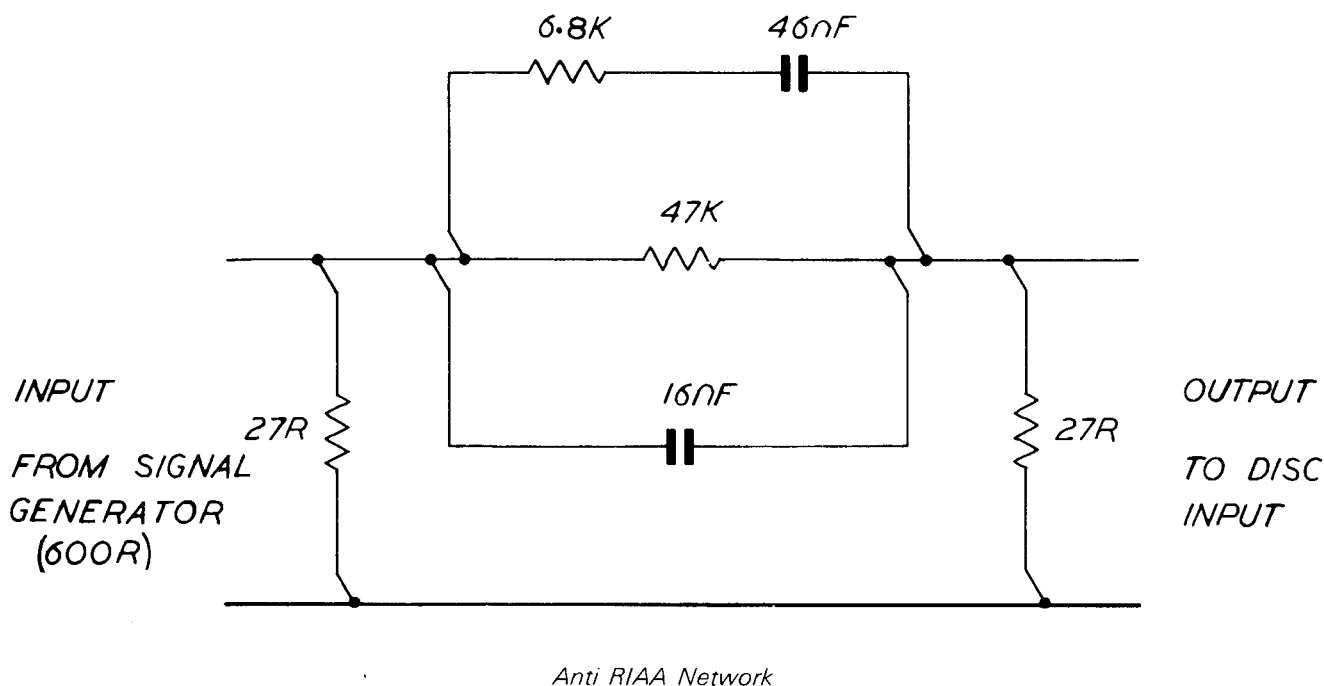

Fig. 5
- Anti RIAA Network as shown in Fig. 5